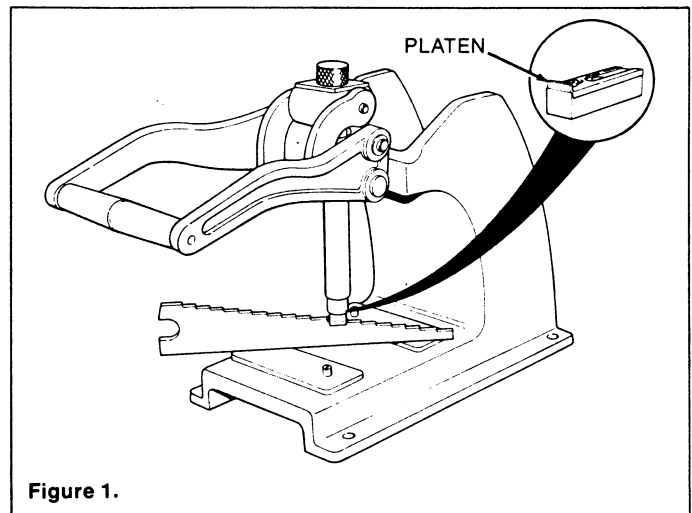

Figure 1.
1. Remove platen from assembly press and adjust the press shut height to the appropriate gauge setting. (Figure 1)